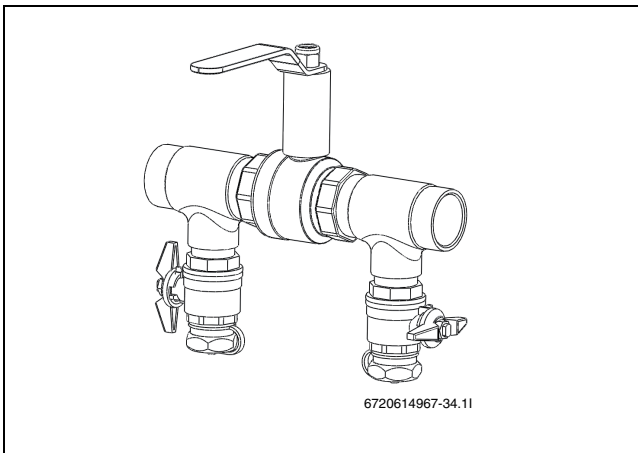

Fig. 20 Filling unit in pressure increase position
- ▶ The circuit must be pressurized when venting is complete. Turn the valves on the filling unit to pressure increase position and pressurize the circuit to 2.5 to 3 bar (→ Figure 20).